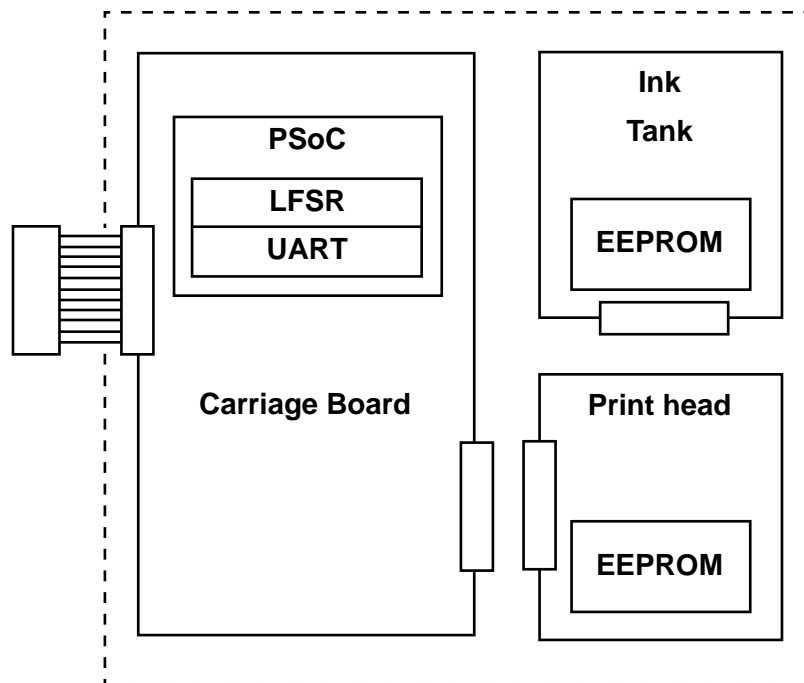

Figure 3-37 Carriage Board, Print Head and Ink Cartridge Block Diagram
**Print Head.** The print head contains all the electronics required to transform the data received into appropriate heater elements through driver devices. The head also provides the mechanical interface to the ink cartridge. Figure 3-37 below shows a block diagram of the print head electronics. Figure 3-38 shows the location of the print head board.